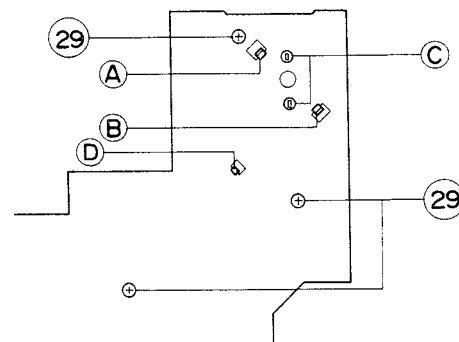

Fig. 7-13
■ Volume motor (Fig. 7-13)
1. Remove three screws (29) retaining the volume holder (37) from the display, volume/system CPU board.
2. Unsolder at two points (C) connecting the volume motor 38.
3. Disengage three pawls (A, B, C) of the volume holder (37) retaining the volume motor (38).
4. Remove the screw (30) retaining the volume motor (38) and the gear base (33).